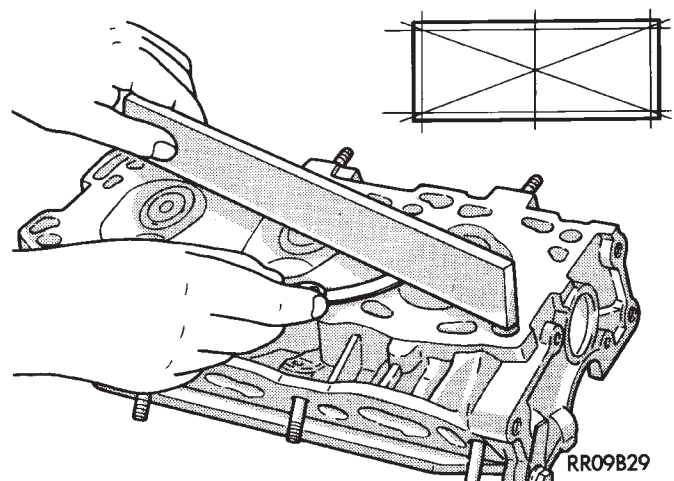

Fig. 15 Check Cylinder Head
- (1) Before cleaning, check for leaks, damage and cracks.
- (2) Clean cylinder head and oil passages.
- (3) Check cylinder head for flatness (Fig. 15).
- (4) Cylinder head must be flat within;